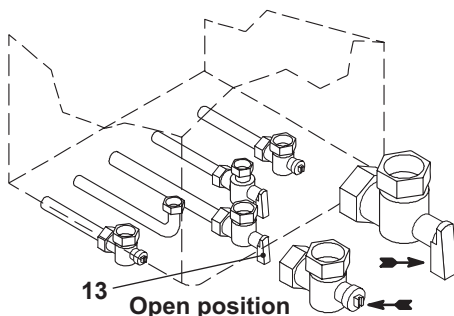

Fig. 8.11
- Open the gas cock (13 in Fig. 8.11).